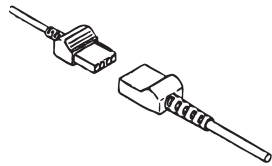

Figure 2: Transducer Cable to Reusable Interface Cable Connection.
4. Connect transducer to reusable interface cable by aligning connector arrows and pushing them together (see Figure 2).